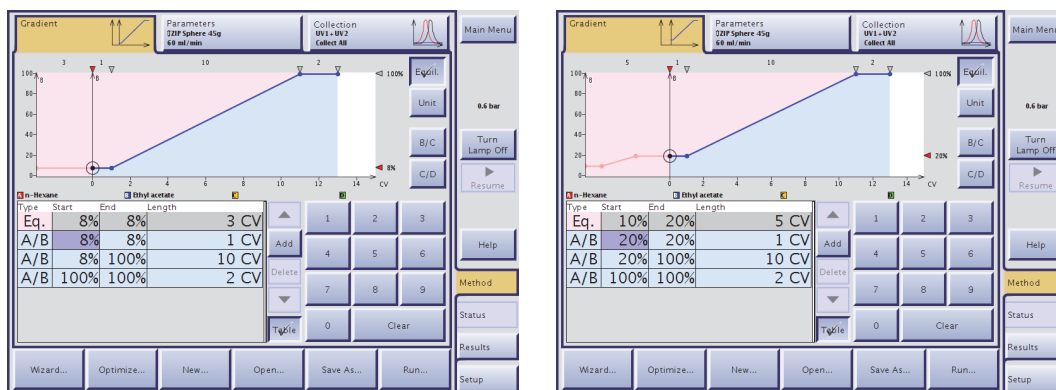

Figure 4-3. Linear or Gradient Equilibration Depending on the Solvent Strength (System With Four Solvent Inlets Shown)
4. If you want to equilibrate the cartridge before the run, press **Equil.** (✓ = equilibration is enabled). 2 to 5 CV are recommended for full equilibration. Note that the equilibration length is fixed when gradient equilibration is used. SNAP KP-Sil, SNAP Ultra (not C18), and ZIP Sphere cartridges also have a fixed equilibration length for isocratic equilibration. If gradient equilibration is enabled for the selected cartridge, it is used when the percentage of the strongest solvent is above 10% in the initial solvent mix. When less or equal to 10%, isocratic equilibration is used. See Figure 4-3.